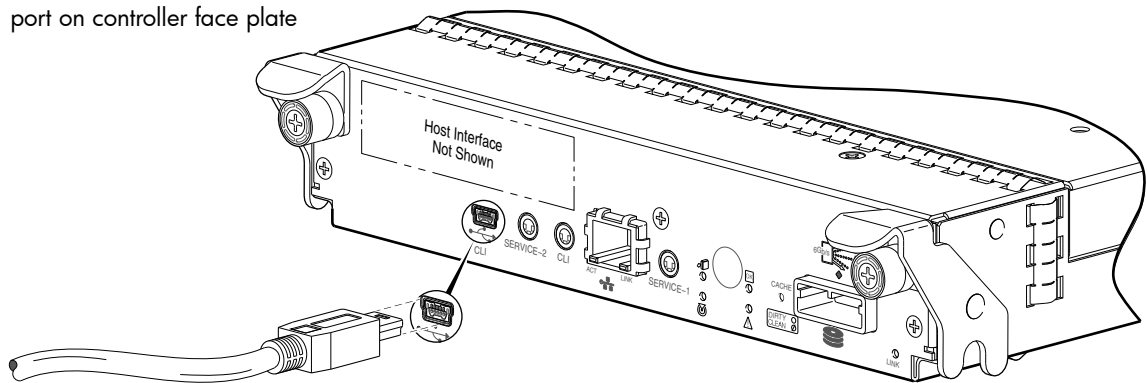

Figure 25 Connecting a USB cable to the CLI port
2. Use the provided USB cable to connect controller A to a USB port on a host computer. The USB mini 5 male connector plugs into the CLI port as shown in Figure 25 on page 41 (generic 3004 Series controller module shown).
If communication with the CLI is disrupted when using an out-of-band cable connection, communication can sometimes be restored by disconnecting and reattaching the mini-USB CLI cable as described in step 2 and Figure 25 on page 41.